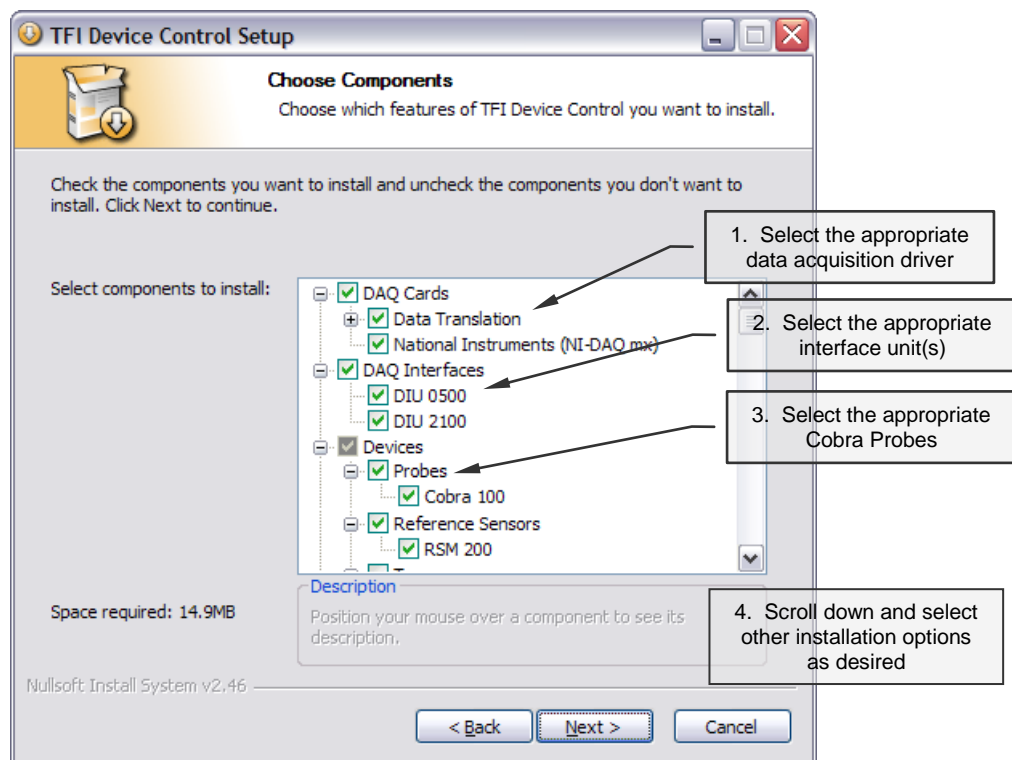

Figure 2: Software installation – Choosing which components are installed
- Follow the on-screen instructions and upon reaching the **Choose Components** screen, refer to Figure 2